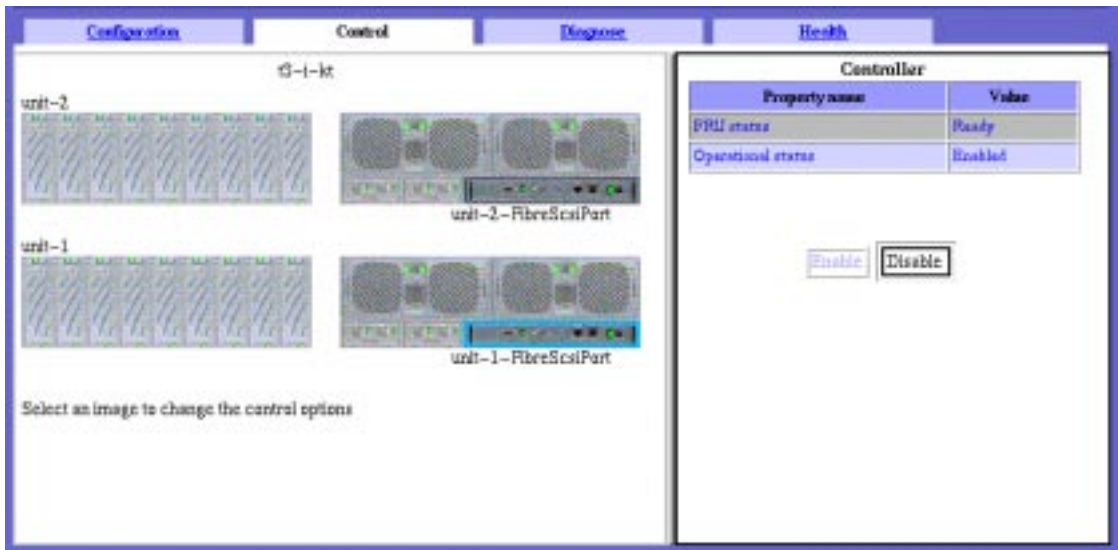

FIGURE 6-3 Sun StorEdge T3 Controller Window
3. Select the controller in the Physical Pane (see FIGURE 6-3).